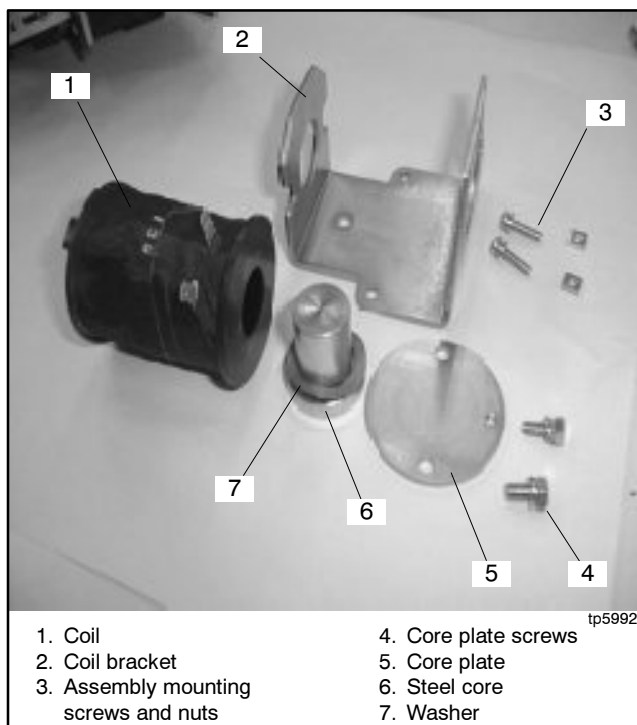

Figure 6-3 Coil Assembly Parts
2. Remove the core plate and the steel core with washer. See Figure 6-3.
3. Remove the coil from the coil bracket. See Figure 6-3.